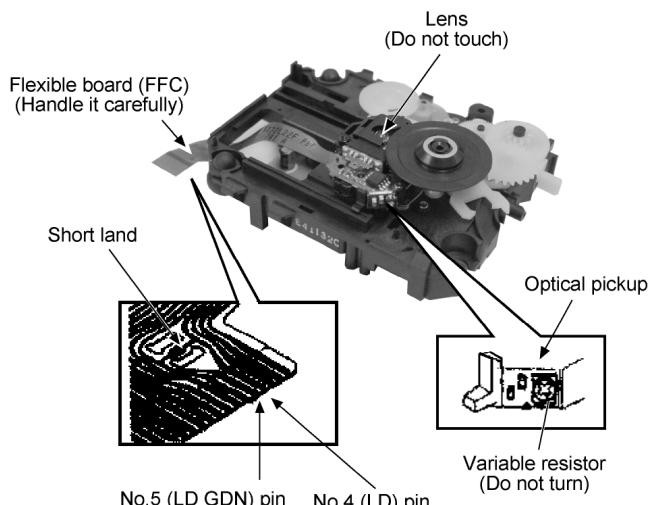

Fig 6.1
2. The short land between the No.4 (LD) and No.5 (GND) pins on the flexible board (FFC) is shorted with a solder build-up to prevent damage to the laser diode.
3. Take care not to apply excessive stress to the flexible board (FPC board) (Fig 6.1).